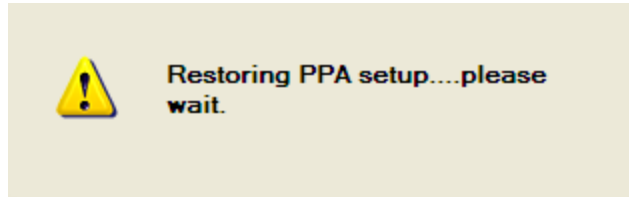

Figure 2-158 Restoring PPA setup notification dialog
- 2 When restoring the 8990B to its factory default settings, a notification dialog is displayed as shown in Figure 2-158.